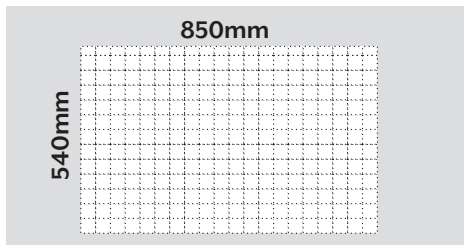

FIGURE 7
1. Prepare bench top cut out using the template provided (Figure 7). Use a fine point marker; then make your cut as accurately as possible.